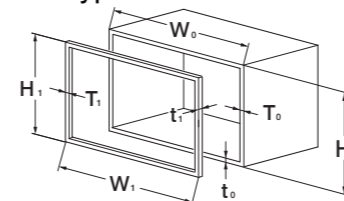

Fig. 2. Cabinet
- When using this mechanism it is necessary to consider such dimensions as cabinet overall width (W_0) and door height (H_1). (Fig. 2)
- The guide bar length (L) has been designed for cabinet overall width (W_0) = 600 & 900mm and cabinet side board thickness (T_0) = 15mm. (Table 2)